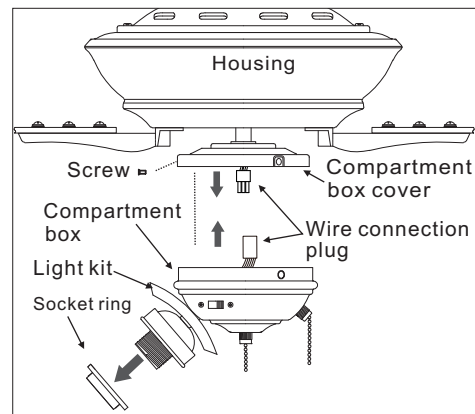

Figure 19
2. Remove 3 screws on compartment box cover. (Figure 19)
3. While holding the light kit assembly under your fan, snap together the wire connection plug. (Figure 19)
4. Carefully push all wires back into the compartment box, then install the light kit assembly onto the compartment box cover with the 3 screws previously removed. Be sure to tighten all screws. (Figure 19)